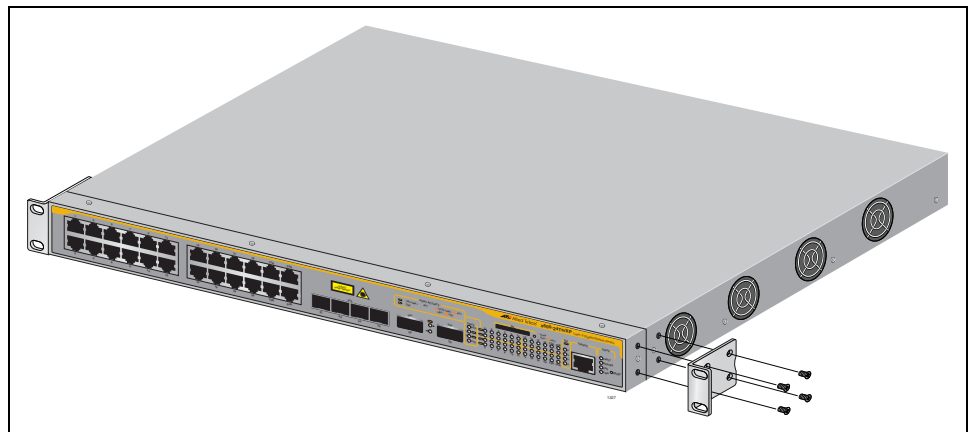

Figure 32. Attaching Rack-Mount Brackets
4. Attach a rack-mount bracket to one side of the switch using four of the screws that come with the switch, as shown in Figure 32.